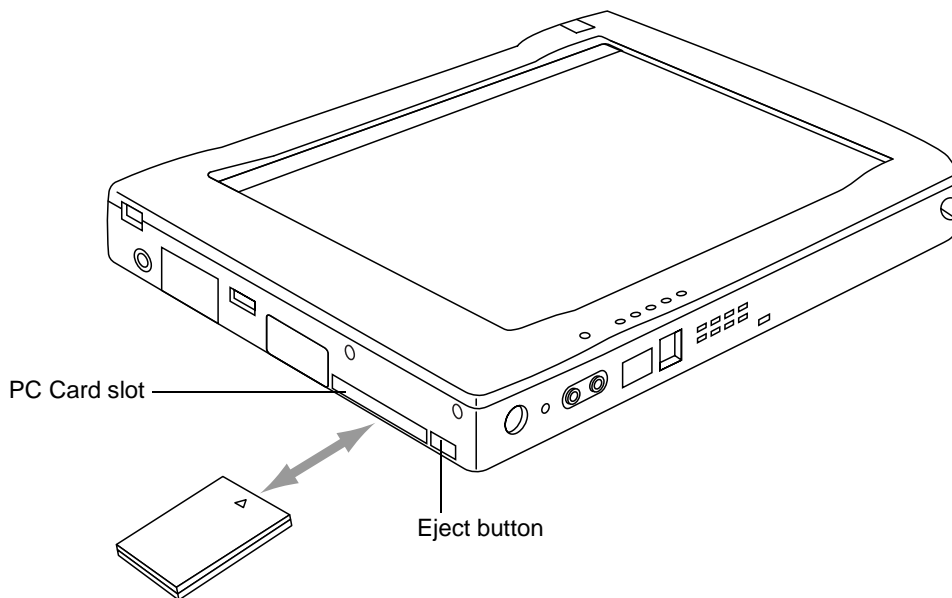

Figure 4-1 Installing a PC Card
1. With the arrow on the PC Card facing up, insert the card through the shutters in the PC Card slot, as shown in Figure 4-1.